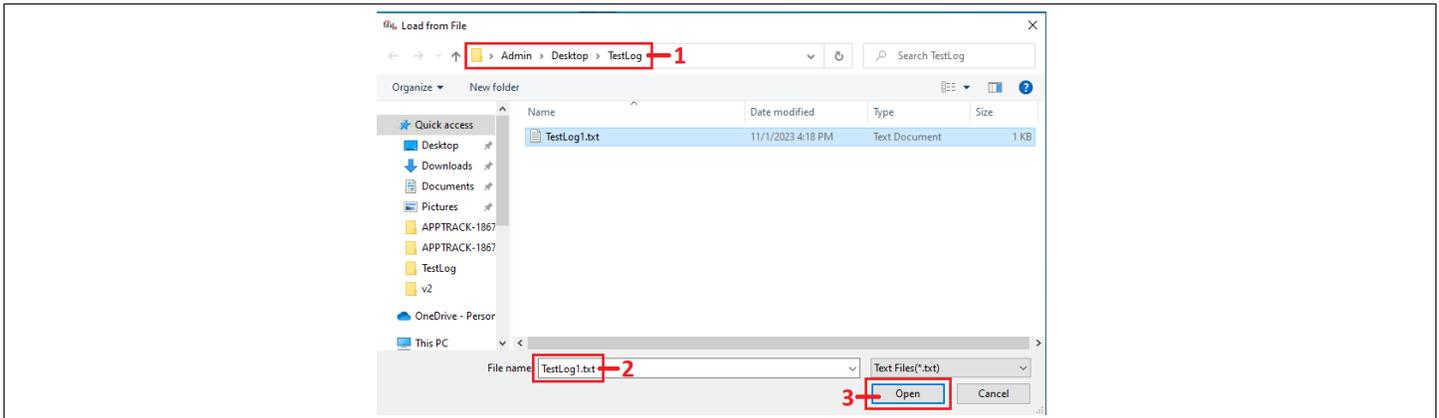

Figure 16: Load Config—Load from File
| Figure 16: Load Config—Load from File | 11 |
- a. Set the path for the target log file as shown as item 1 in Figure 16.
- b. Select the file name of the target log file as shown as item 2 in Figure 16.
- c. Click **Open** button to do the actual load as shown as item 3 in Figure 16.